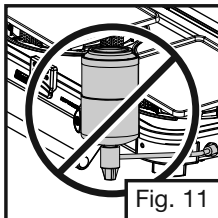

Fig. 11
11. Never operate stove with LPG cylinder in an inverted position. (Fig. 11)